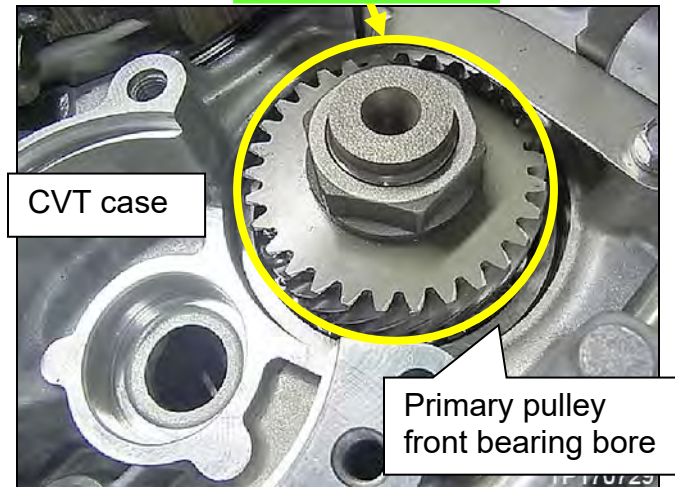

Figure 4P
**NOTE:** Figure 4P is shown looking down into the CVT case while it is being lowered.